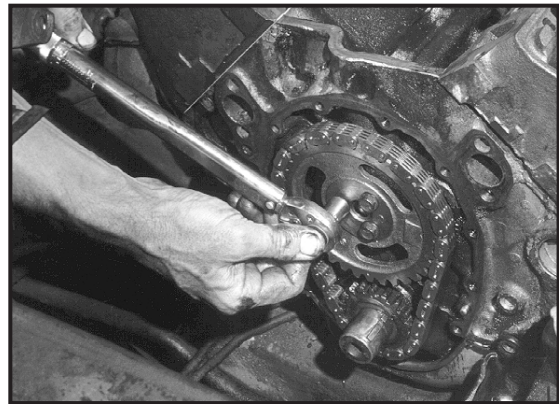

Figure 2
2. Remove the camshaft timing sprocket as shown in Figure 2, and the timing chain. Re-install the cam sprocket and slowly remove the camshaft from the block. Excessive force is not required. If the camshaft can't be removed easily, stop and look for the obstruction. (Such as lifters, fuel pump rod, distributor gears, etc.)